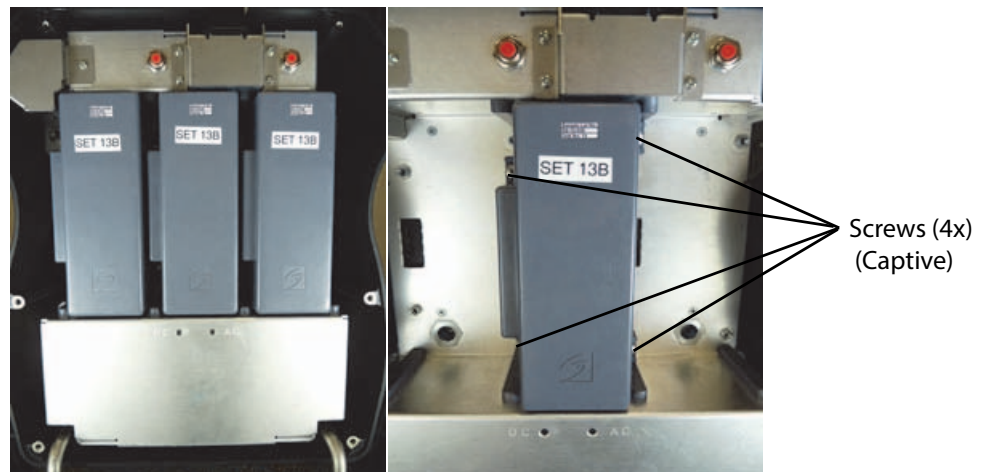
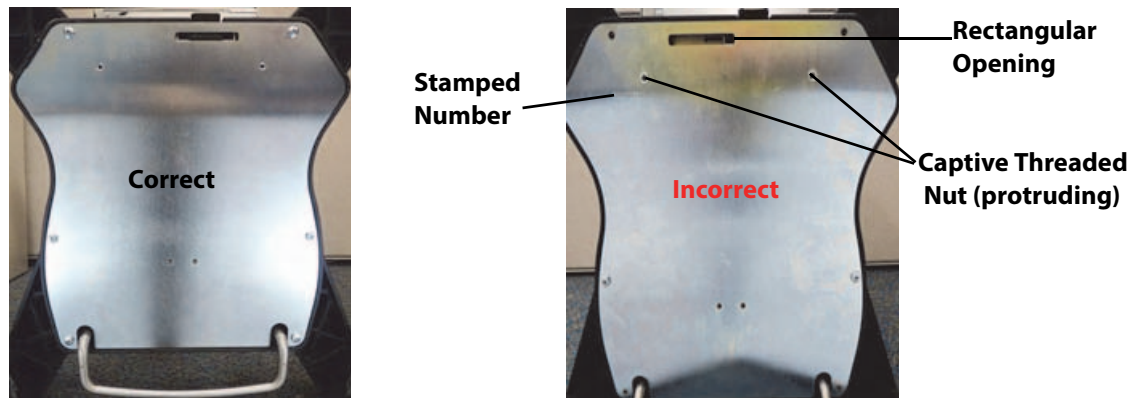

Figure 6.10 Batteries
Figure 6.14 Correct Bottom Plate Orientation
- 13 Remove the three batteries mounted to the SPMU by loosening the four captive Phillips screws holding each battery and pull each battery off of the SPMU. Refer to Figure 6.10 on page 42.
Note: The Bottom Plate will mount inside out. When the Bottom Plate is incorrectly mounted, the PowerPark will not connect to the stand. Please ensure that the Bottom Plate has the top opening under the AC power cord IEC socket and that the two captive thread areas are not protruding out of the stand base. Refer to Figure 6.14 on page 44
- 2 Tighten the captive battery retention screws and the six M5 x 8 Phillips screws for the bottom stand plate to 20-inch pounds. Refer to Figure 6.10 on page 42 and Figure 6.14 on page 44